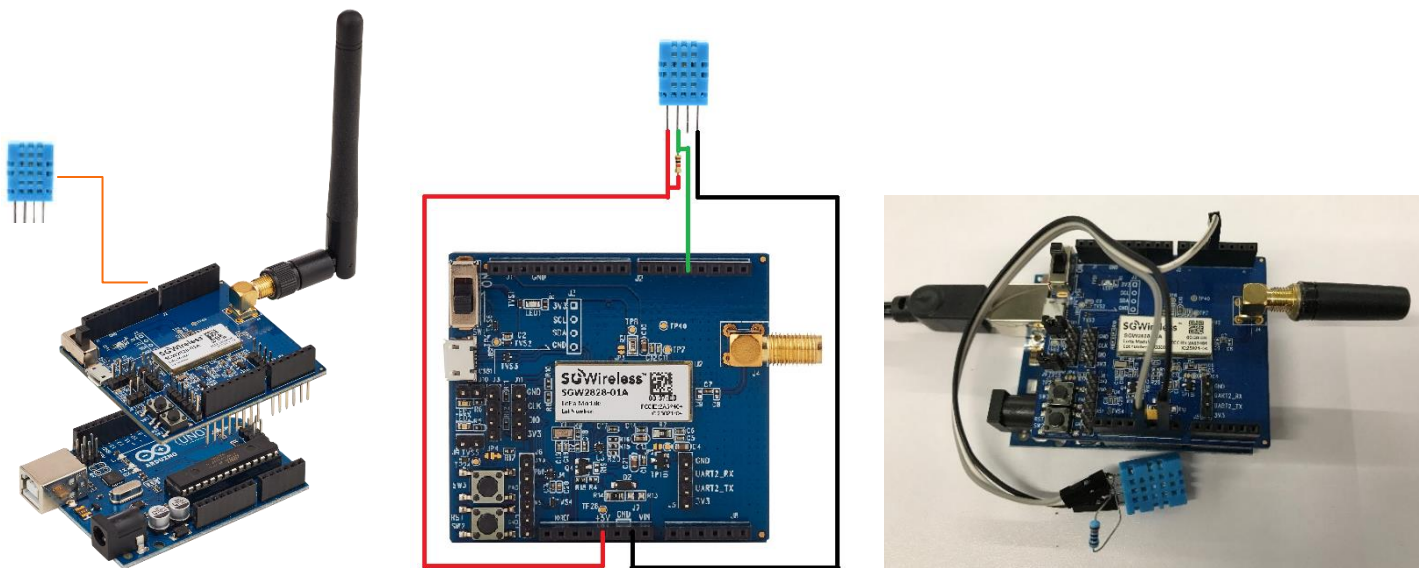

Figure 6: DHT11 Sensor connection to Arduino UNO and SGW2828-EVK
4. SGW2828-EVK Connection to DHT11 Sensor for Remote Sensor Device (Figure 6)